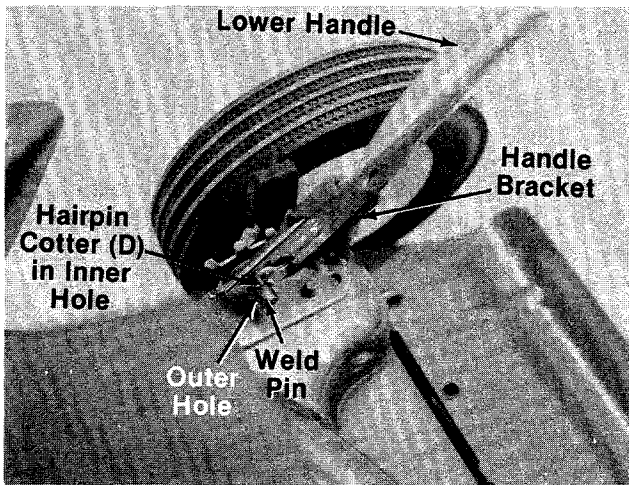

FIGURE 4.
- B. Place lower handle in position over weld pins in handle mount brackets on deck, using the bottom hole in the lower handle. Secure with hairpin cotters (D) in inner hole on weld pin. See figure 4.